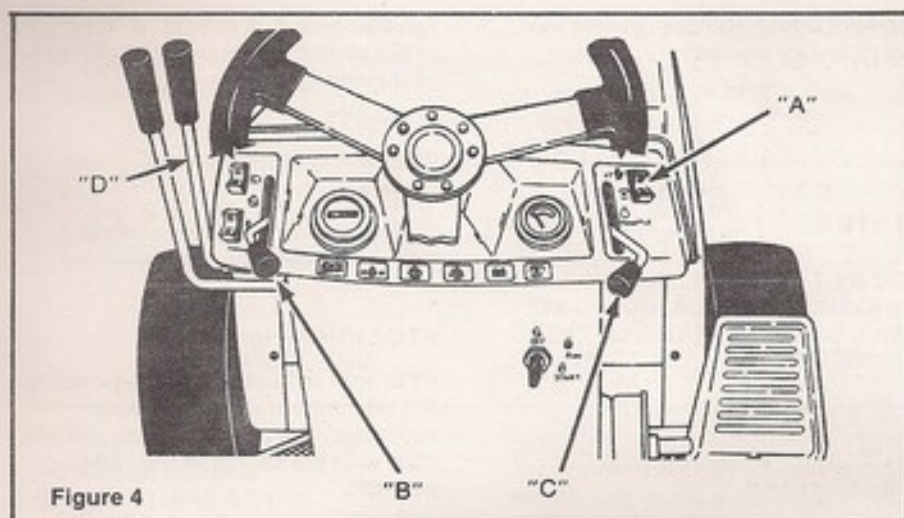

Figure 4
1. THE STARTER WILL OPERATE ONLY WHEN THE PTO SWITCH (A), FIG. 4, IS IN "OFF" POSITION, WHEN BRAKE/NEUTRAL PEDAL IS DEPRESSED.
2. Move choke lever (B), all the way up (choke on). Experience will show a need for more or less choking due to variations in temperature, grade of fuel, etc.
3. Move throttle lever (C), up about halfway.
Move PTO switch (A), Figure 4, to "ON" to engage attachment drive clutch. Move PTO switch to "OFF" to disengage.
The attachment lift (D), Figure 4, can be maneuvered while vehicle is at rest or in motion. Pull lever back to raise attachments and push forward on lever to lower attachments.